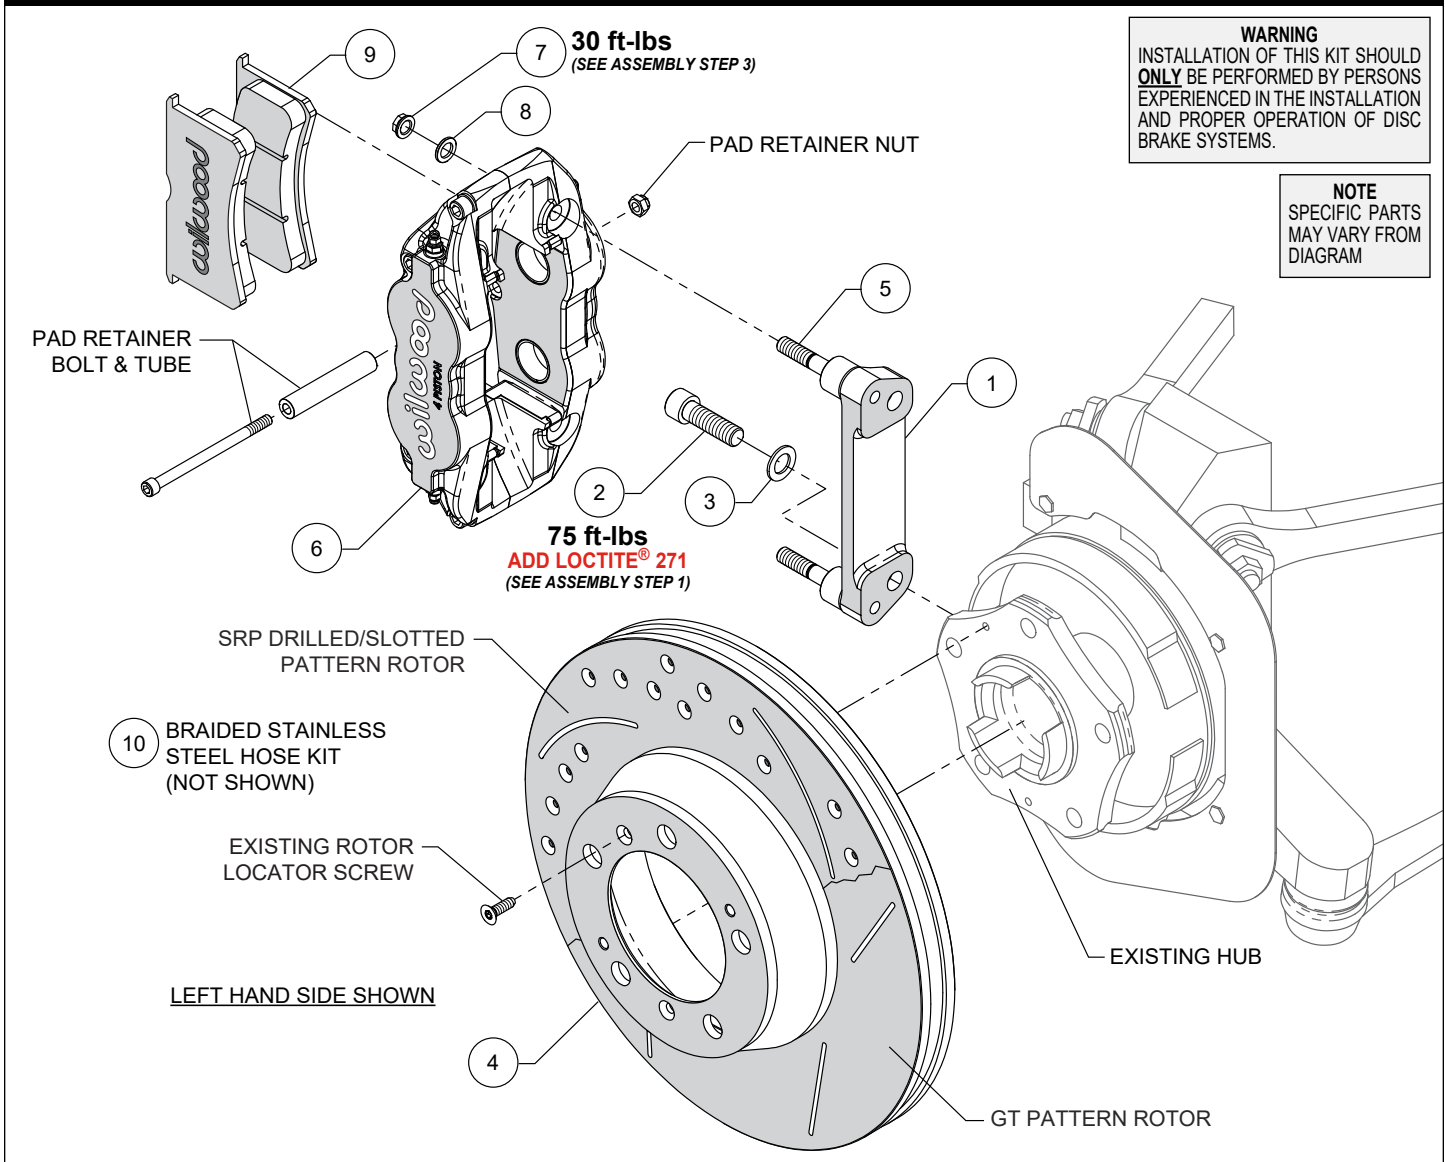

Figure 1. Typical Installation Configuration
NOTE: Numbers in parenthesis refer to the parts list and Figure 1 on the preceding pages.
STEP 1 The caliper mount bracket (1) should initially be installed with clean, dry threads on the mounting bolts. Orient the bracket as shown in Figure 1 and Photo 1, and install using bolts (2) and washers (3). Temporarily tighten the mounting bolts. **NOTE:** The bracket must fit squarely against the mount bosses on the upright. Inspect for interference from casting irregularities, machining
ridges, burrs, etc. Remove each bolt one at a time, apply red Loctite® 271 to the threads, and torque to value shown in Figure 1.
STEP 2 Slide the rotor (4) onto the hub, Photo 2. **NOTE:** The rotor must fit flush against the hub flange or excessive rotor run out may result. Install the existing OEM rotor locator screws as shown in Figure 1 and Photo 2, to keep the rotor in place while continuing with the installation.
STEP 3 Mount the caliper (6) onto the bracket (1) using lock nuts (7) and washers (8), Figure 1 and Photo 3. Torque the caliper lock nuts (7) to value shown in Figure 1.
STEP 4 Remove the caliper pad retainer bolt, locknut, and tube from the caliper (6). Insert the brake pads (9) into the caliper, with the friction material facing the rotor, as shown in Photo 4. Secure the brake pads in place with the pad retainer bolt, locknut and tube, Photo 5. The locknut should be snug without play in the bolt or tube. Be cautious not to over tighten.
STEP 6 Attach supplied brake line to caliper. **NOTE:** OEM rubber brake hoses generally cannot be adapted to Wilwood calipers. Install Wilwood's stainless steel braided flexline hose kit (10), P/N 220-17385, included with this kit, as shown in Photo 6. The caliper inlet fitting is a 1/8-27 NPT. Use the included steel adapter inlet fitting at the caliper (use PTFE tape on the pipe threads of adapter fitting for proper sealing to caliper). Note the final orientation of the caliper inlet adapter fitting as shown in Photo 6. Mount the Wilwood brake line chassis adapter fitting into OEM bracket using the supplied retainer clip and attach the OEM hard line to new chassis adapter fitting.